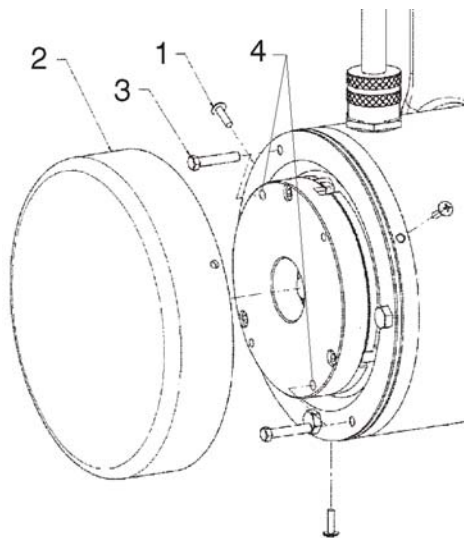

Figure 4-4. Manual Disengage
3. Remove the **three cover bolts (1)**, from the back of drive motor unit.
4. Remove **brake cover (2)**.
5. Locate the **2 disengage bolts (3)** that are stored in the motor endcap. Remove bolts and insert them into the **two disengage holes (4)** in the brake housing, see Item 4 in Figure 4-4., Manual Disengage.
8. After towing is complete, chock wheels and remove **2 disengage bolts (3)** from **disengage holes (4)**. Insert bolts back into original holes in motor endcap.
9. Reinstall **cover (2)**.